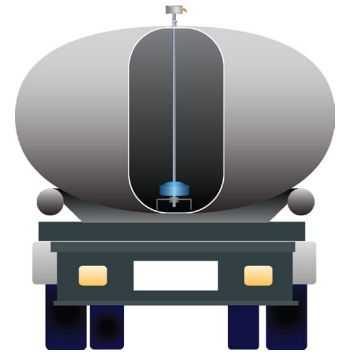

Figure 3.2.1a Bar location - back view
1. Select a central location in the tank for mounting the sender bar, ensuring proximity to the tank’s midpoint and allowing space for the head at the top. (See Figure 3.2.1a)